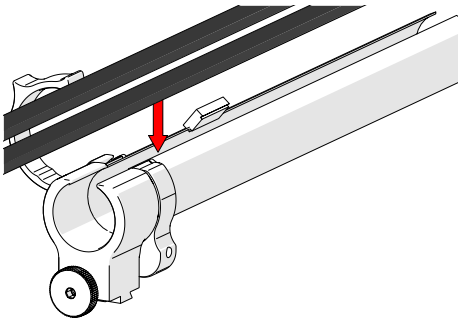

Fig. 33 - Insert cables and hoses
1. Open the cable management sleeving. Begin at the tube's dovetail mount and place the cabling in the sleeve (*Fig. 33*).